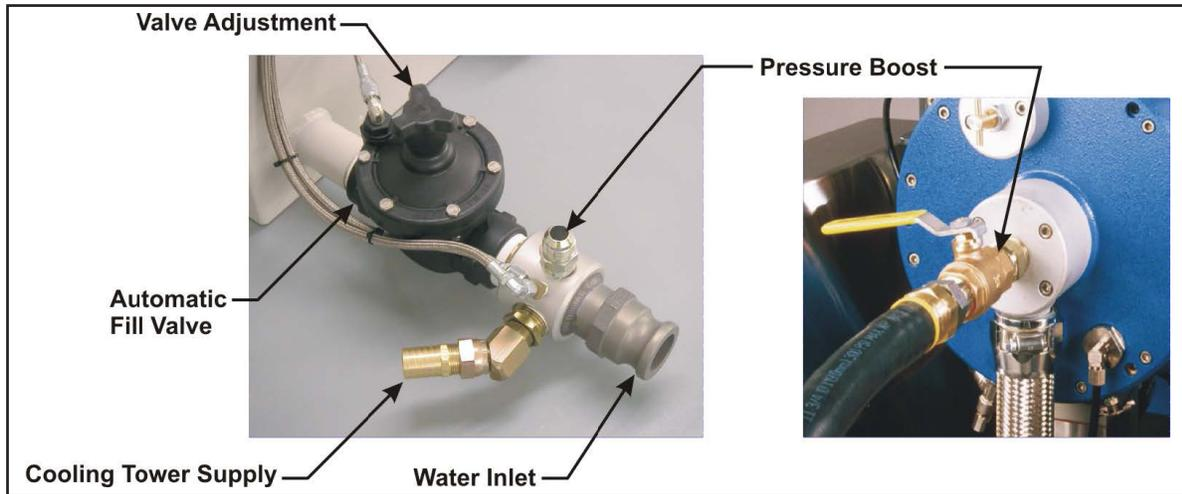

Figure 4.3 Water Supply Connections
8. Install the pressure boost hose from the water inlet to the open fitting on the back of the absorber (Figure 4.3). Leave the ball valve in the closed position.